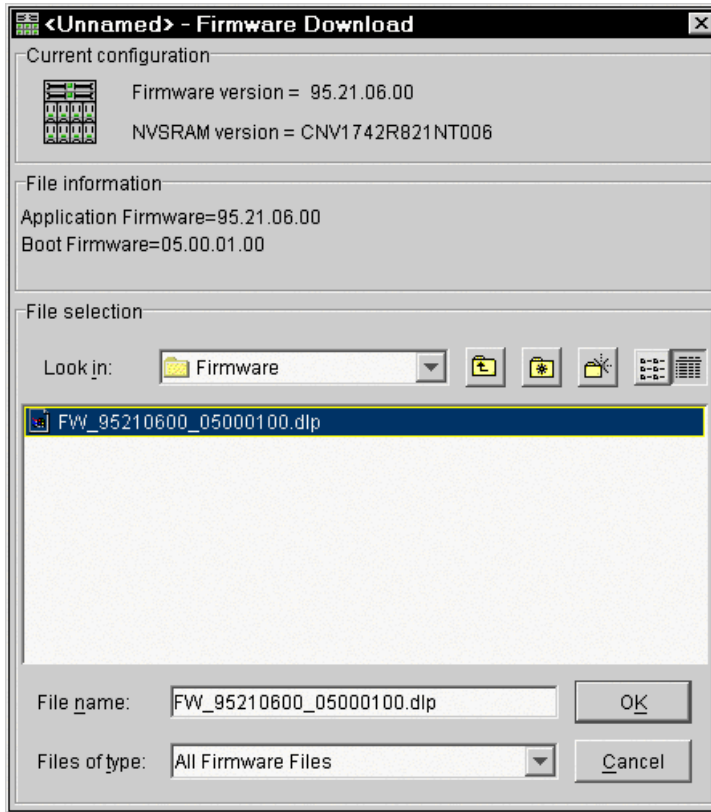
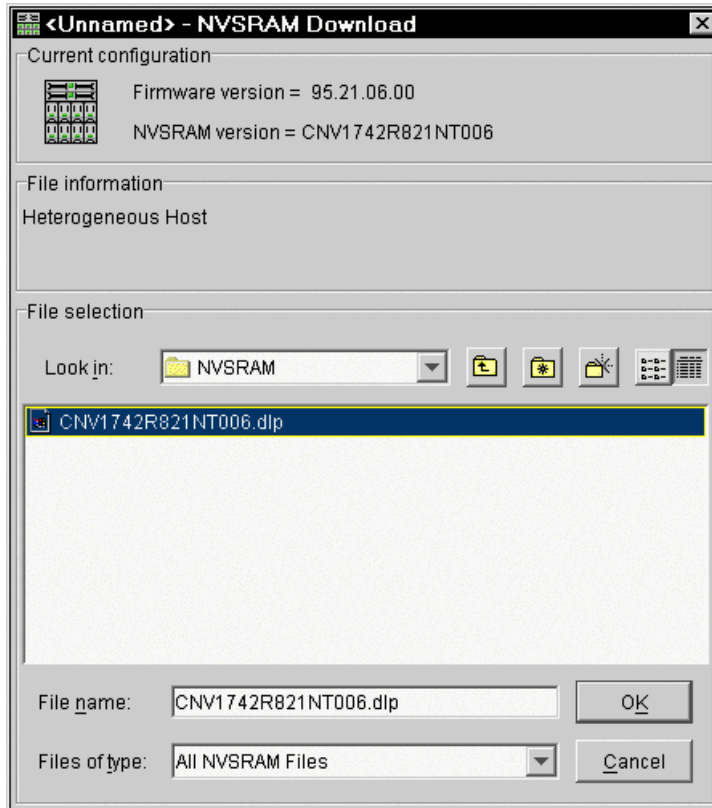

Figure 4-15 Firmware Download window
Figure 4-19 NVSRAM Download window
- b. You are prompted for the file location where the new firmware you want to download is stored. In the first part of the window, you can see the actual versions of the firmware and NVSRAM installed on the controllers. The second part tells you which firmware revision is included in the file you have chosen as shown in Figure 4-15.
- b. As for the firmware download, choose the correct file you want to download to the controllers (Figure 4-19). The window has the same structure as the Firmware Download dialog (Figure 4-15). Therefore, you see the new firmware revision and the NVSRAM revision installed on the storage subsystem.